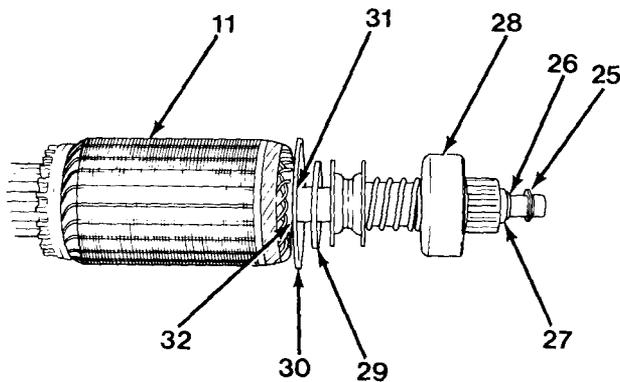
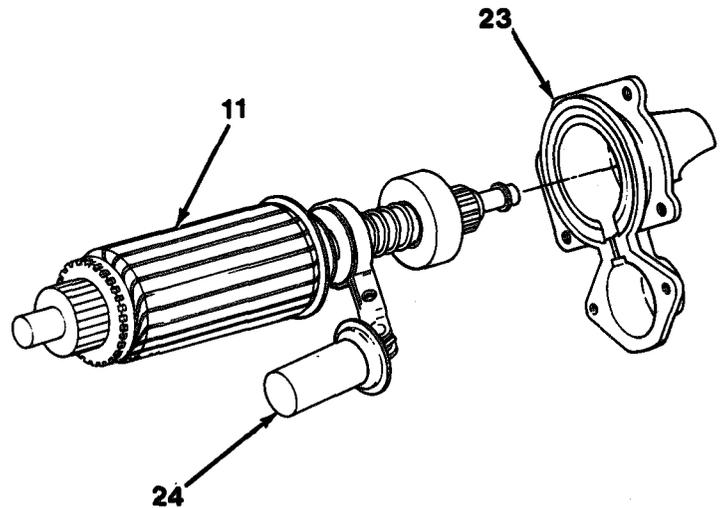

Figure 10-9
Figure 10-8
10. Remove thrust collar (25), retainer ring (26) and stop collar (27) from armature (11), Figure 10-9).
11. Remove drive assembly (28), drive washer (29) and bearing plate (30).
1. Using bearing press, install bearing oil seal (32) and center bearing bushing (31), if removal, to bearing plate (30, Figure 10-9).
2. Install bearing plate (30) drive washer (29) and drive assembly (28) to armature (11).
3. Install stop collar (27), retainer ring (26) and thrust collar (25).
4. Install plunger (24) with shift lever attached and armature (11) to drive housing (23, Figure 10-8).